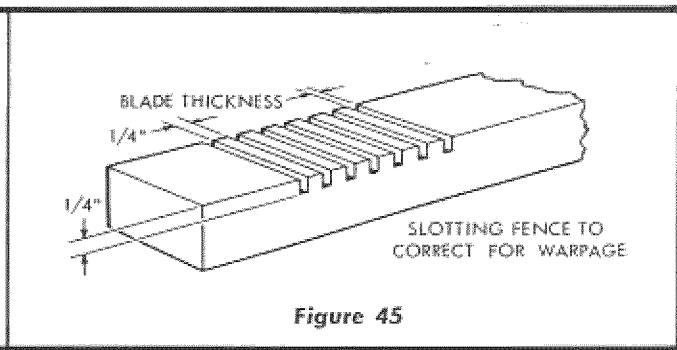

Figure 45
5. In the event that the fence is warped and cannot be straightened by tightening the table clamps proceed as follows: Remove the fence and replace with a temporary fence made from a straight piece of scrap lumber. Proceed to cut slots in the original fence where the gap between the fence and front table was determined to be the greatest. (See figure 45 for slotting.)